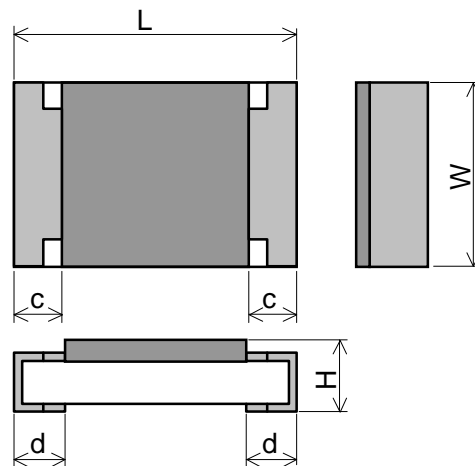

Figure-2
5.1 The resistor shall be of the design and physical dimensions in accordance with Figure-2 and Table-6.